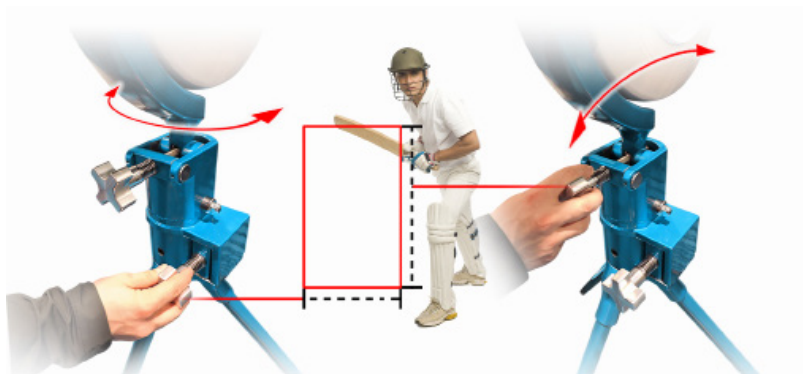

Figure 4b. Micro-Adjustment Knobs
6. Have all batters and observers stand well clear of the target as you deliver practice balls. **To adjust trajectory, use the Vertical Micro-Adjustment Knob. To adjust in and out (right or left), use the Horizontal Micro-Adjustment Knob** (see figure 4b.) It is normal to feed five or six balls before arriving at the setting you desire. Always have the batter stand clear while adjusting your JUGS cricket machine.